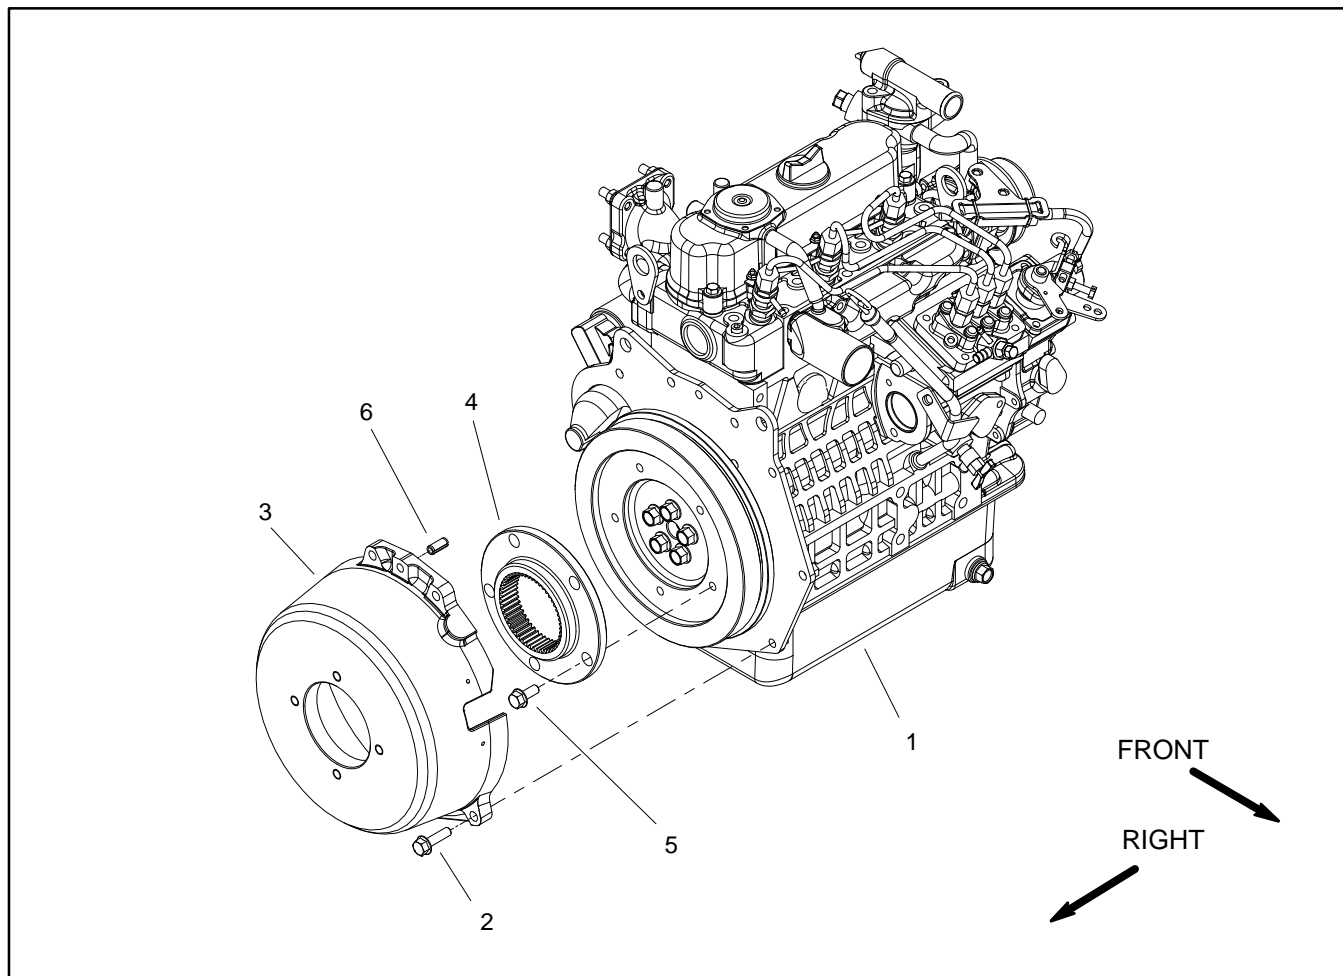

Figure 17
### Removal (Fig. 17)
2. As necessary, remove bell housing and coupling flange from engine using Figure 17 as a guide.
### Installation (Fig. 17)